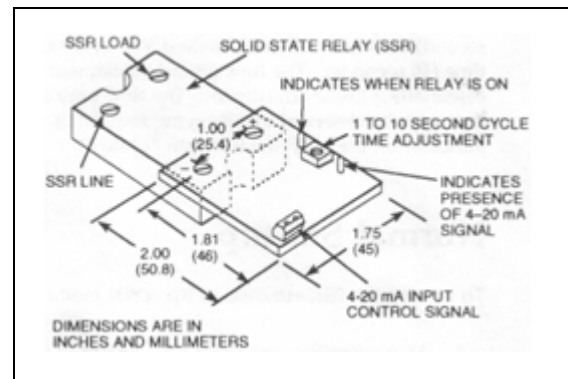

Figure 2. Model 60804 Time-Proportion Module Components.
Install the I/TP Time- Proportioning module to the SSR control signal terminals using the screws provided with the SSR. Ensure the I/TP module and SSR + (positive) terminals are matched (see Figure 2).
Connect the + (positive) signal lead of the process controller (4-20 mA source) to the + (positive) terminal of the I/TP module (reference Figure 2). Connect the - (negative) signal lead of the process controller to the - (negative) terminal of the I/TP.
To adjust the I/TP time period, adjust the cycle time potentiometer (see Figure 2). Adjust the potentiometer fully counterclockwise (CCW) for minimum (1 second) time and fully clockwise (CW) for maximum time (10 seconds). The time period adjustment is essentially a linear adjustment. The time period cycle time may be observed by observing the SSR on LED indicator on the I/TP module (see Figure 2).